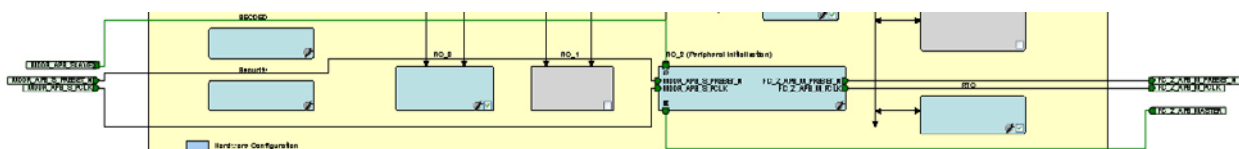

Figure 1-10 • FIC_2 Ports
3. Click **OK** to save your settings. This exposes the FIC_2 configuration ports (Clock, Reset, and APB bus interfaces), as shown in Figure 1-10.